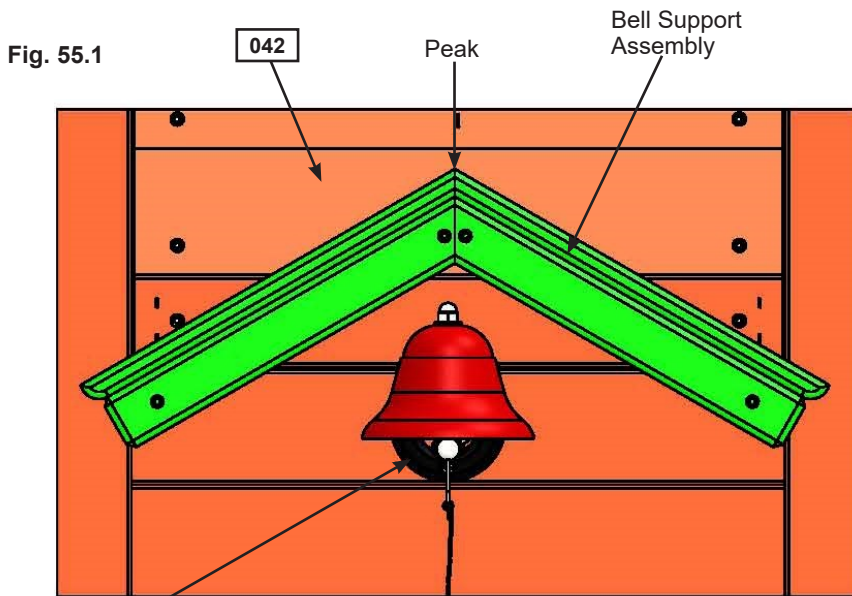

Fig. 55.1
A: Centred under the peak of the Bell Support Assembly attach Horseshoe Mount to (042) Narrow Front Panel with 4 (S0) #8 x 7/8" Truss Screws. (fig. 55.1, 55.2 and 55.3)
B: Thread the Steel Clapper Line through the Bolt. Slide Bell under overhang of Horseshoe Mount then insert Bolt up through Bell and Horseshoe Mount then secure with Nut. Make sure it is tight. (fig. 55.1, 55.3 and 55.4)